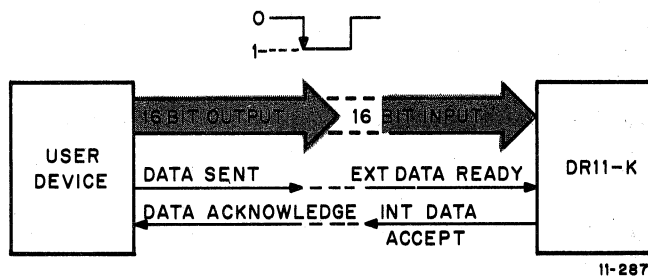

Figure 6-2 Block Diagram of Input Example 2
**Solution:** The bits of the DR11-K input buffer register are edge-triggered, so that the data on the data line will set each register bit on a negative transition (+3 V to ground) and will be held until the software clears the register. The data input of the DR11-K should be set up for a register input (Tables 5-1 and 5-2). Figure 6-2 shows this example graphically.